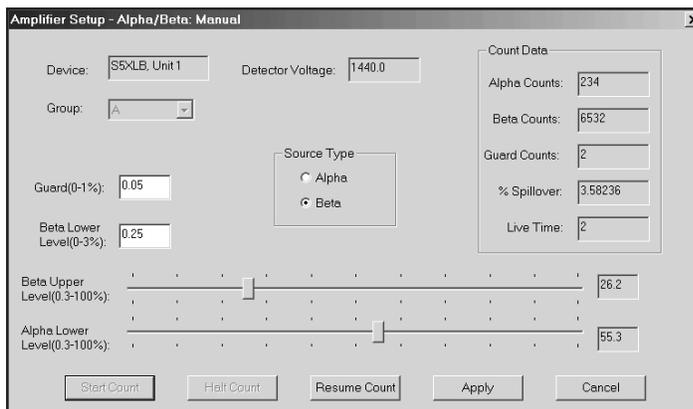

Figure 53 Alpha/Beta Amplifier Setup Screen
2. The Amplifier Setup - Alpha/Beta Manual screen (Figure 53) appears. Select *Group B*, where the  $^{90}\text{Sr}$  source is located and *Beta* as the Source type. Adjust the Beta Upper Level and Alpha Lower Level discriminators simultaneously until a  $3.5\% \pm 0.2\%$  beta spillover is achieved. It is best to have at least 20 000 beta counts for this adjustment decision. It may be necessary to **Start Count**, and then **Halt Count** and **Resume Count** several times, making adjustments at each step, to determine the correct discriminator settings.